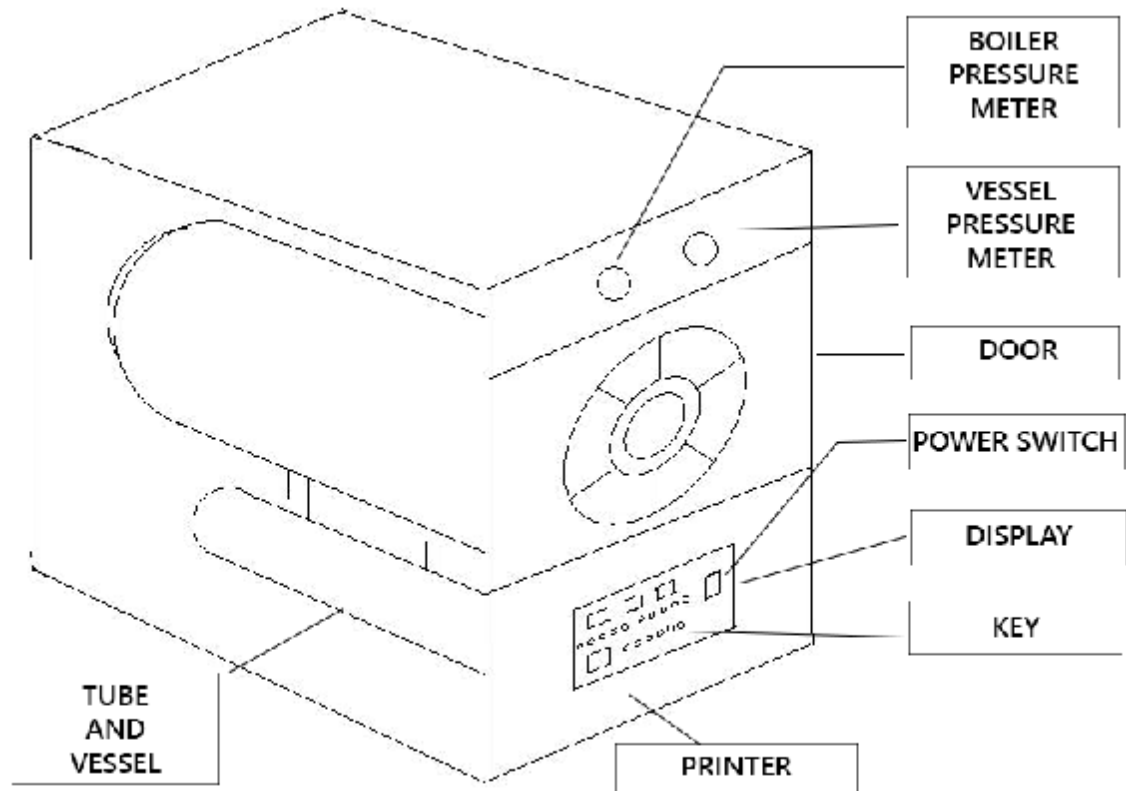

Fig. 1
a) See Fig. 1 for outline structure of sterilizer